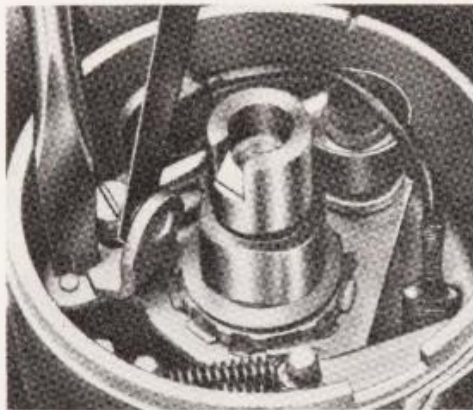

Fig. A-14. Adjustment of breaker point gap on late model distributors.
- 3 - Turn eccentric adjusting screw until correct gap of .016 in. is obtained. Check with a feeler gauge. On later distributors, insert screwdriver tip between two lugs on contact plate and slot in stationary point carrier, Fig. A-14. Twist screwdriver to obtain .016 in. gap. Tighten lock screw.